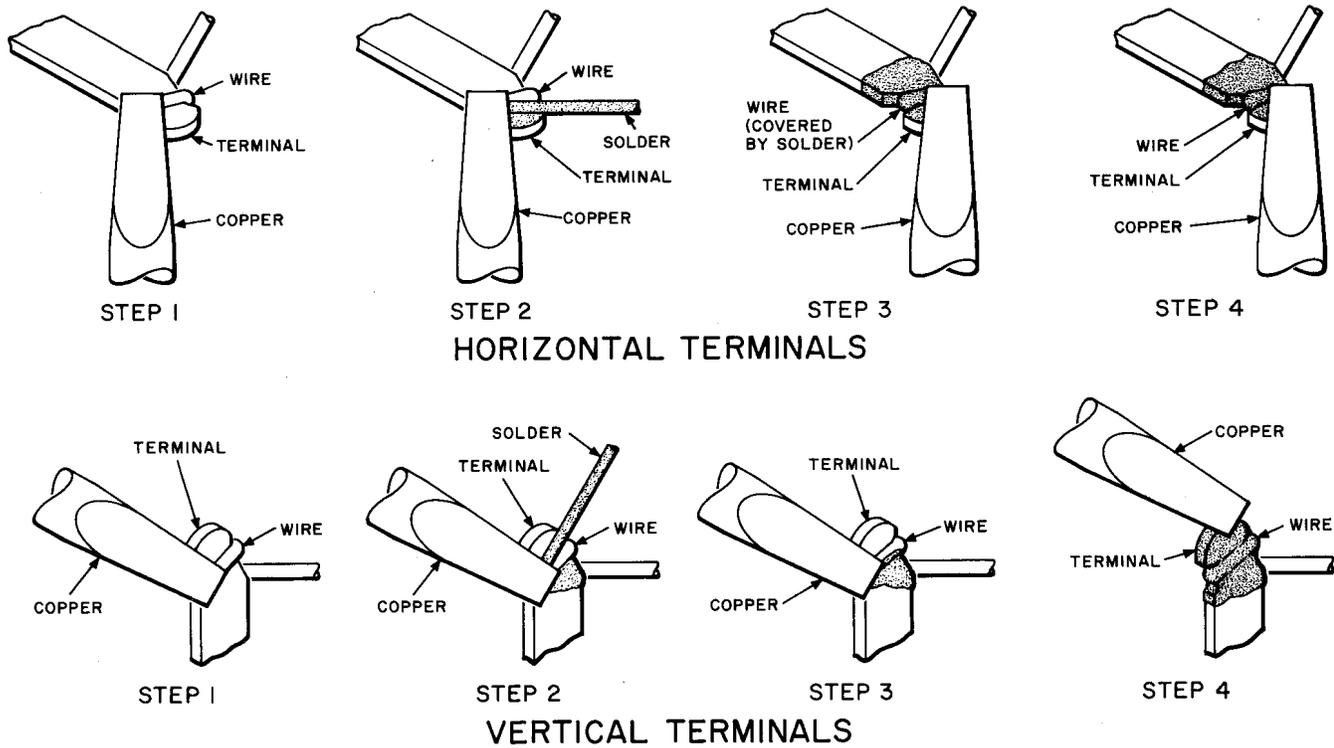

Fig. 5—Soldering Wire to Notched Terminals
**7.01** Apply rosin-core solder to the tip of a hot soldering copper momentarily so as to leave a small amount of molten solder on the tip. The tip is then applied to the terminal and wire as shown in Fig. 5, Step 1. As the terminal and wire attain proper soldering temperature, the molten solder will spread over the surfaces of the terminal and wire. As this occurs, a small amount of additional solder is immediately applied to the heated joint as shown in Fig. 5, Step 2 so the molten rosin will protect the joint as the soldering process is completed.
**7.02** When the solder has melted and flows freely, bring the copper down over the terminal with a forward movement, so the solder flows over the wire, completely covering it as shown in Fig. 5, Step 3. Draw the copper off the terminal, carrying with it any surplus solder so as to leave a clean, smooth joint as shown in Fig. 5, Step 4.